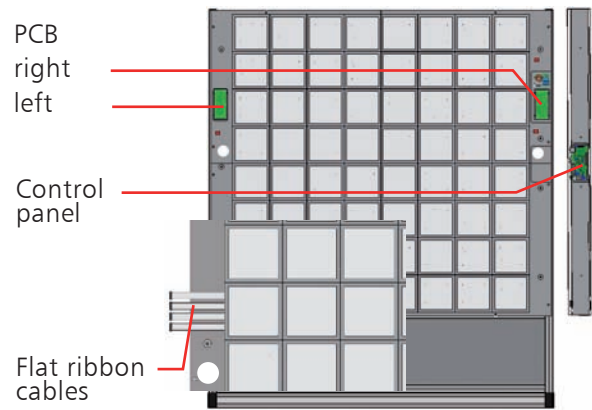
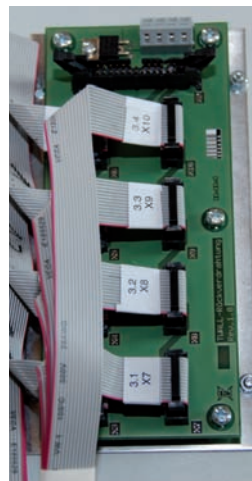

Abb. 3.1-31
fig. 3.1-32
**Step 24** You can find four (4) **14-stranded** flat ribbon cables at each basic module to connect them to the manifold PCBs (**fig. 3.1-32 and 3.1-33**). The cables are marked as 0.1 - 0.4, 1.1 - 1.4, 2.1 - 2.4 and 3.1 - 3.4 as well as the appropriate plug number. Now put the flat ribbon cables on the manifold PCBs. The PCB for the two (2) right basic modules can be found at the right upper basic module, the PCB for the two (2) left basic modules are located at the left upper basic module (**fig. 3.1-31**).